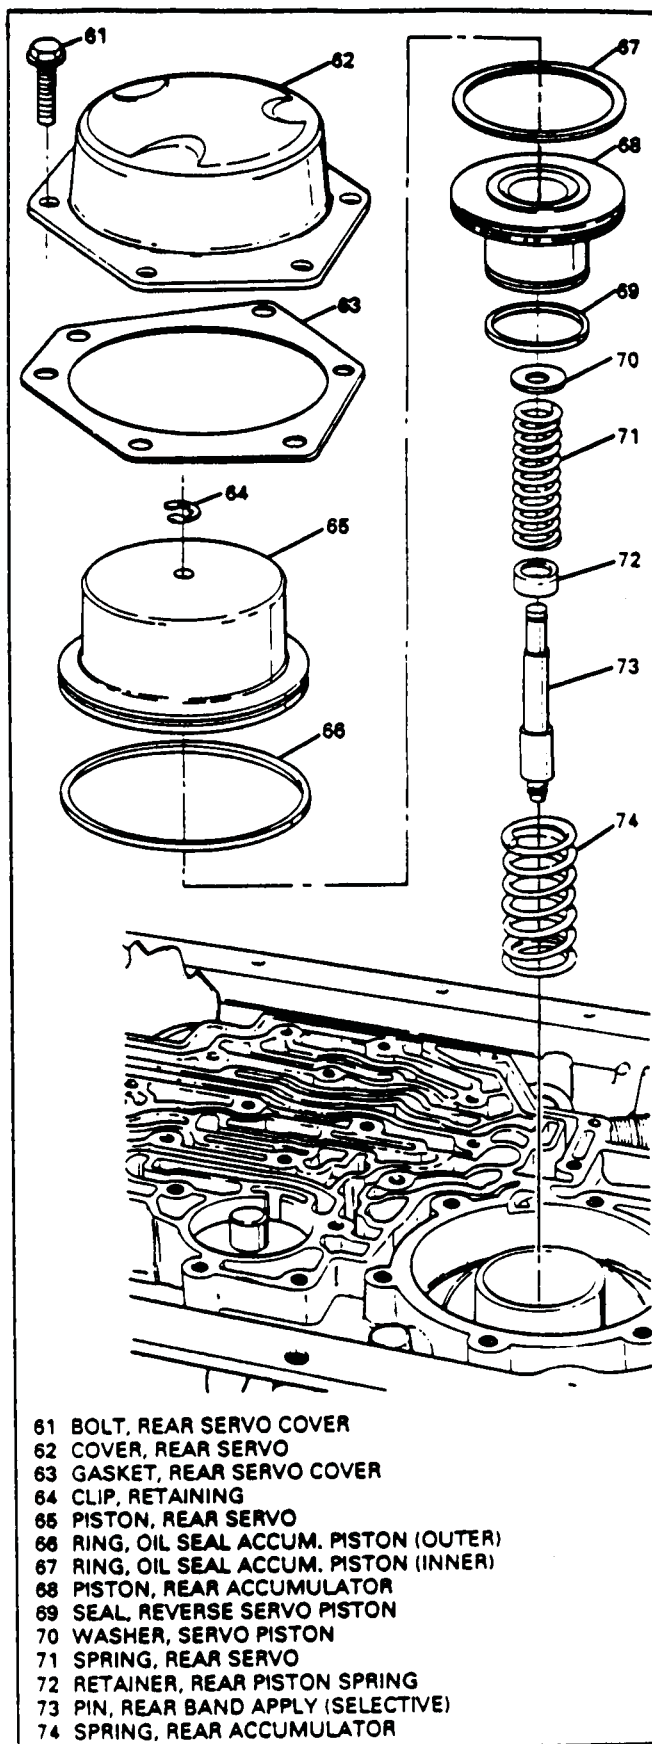

Figure 116
1. Install retainer (72) on reverse servo pin, spring (71) and washer (70) on servo pin (See Figure 116).
2. Install the servo pin assembly through the reverse servo piston, and install the "E" clip (See Figure 116).
3. Install a new seal onto the reverse servo piston, and lubricate with petrolatum (See Figure 116).
4. Install the 1-2 accumulator piston on the inside of the reverse servo piston. (See Figure 116).
5. Install the 1-2 accumulator spring (74) into the case bore (See Figure 116).
6. Install the reverse servo assembly into the case bore, using care so as not to cut the seal (See Figure 116).
7. Install new reverse servo cover gasket on case (See Figure 116).
8. Install the reverse servo cover, and 6 retaining bolts (See Figure 116).